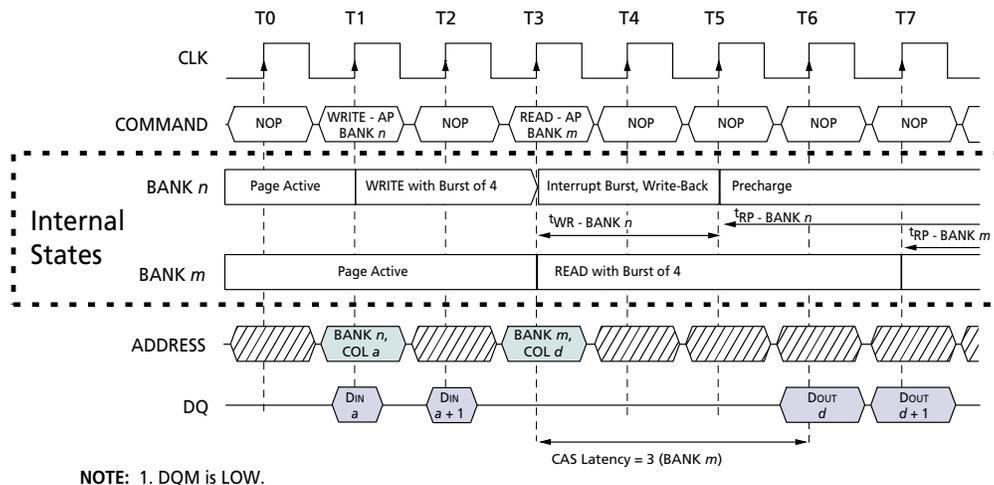

Figure 26
- Interrupted by a READ (with or without AUTO PRECHARGE): A READ to bank m will interrupt a WRITE on bank n when registered, with the data-out appearing CAS latency later. The PRECHARGE to bank n will begin after t^{WR} is met, where t^{WR} begins when the READ to bank m is registered. The last valid WRITE to bank n will be data-in registered one clock prior to the READ to bank m (Figure 26).